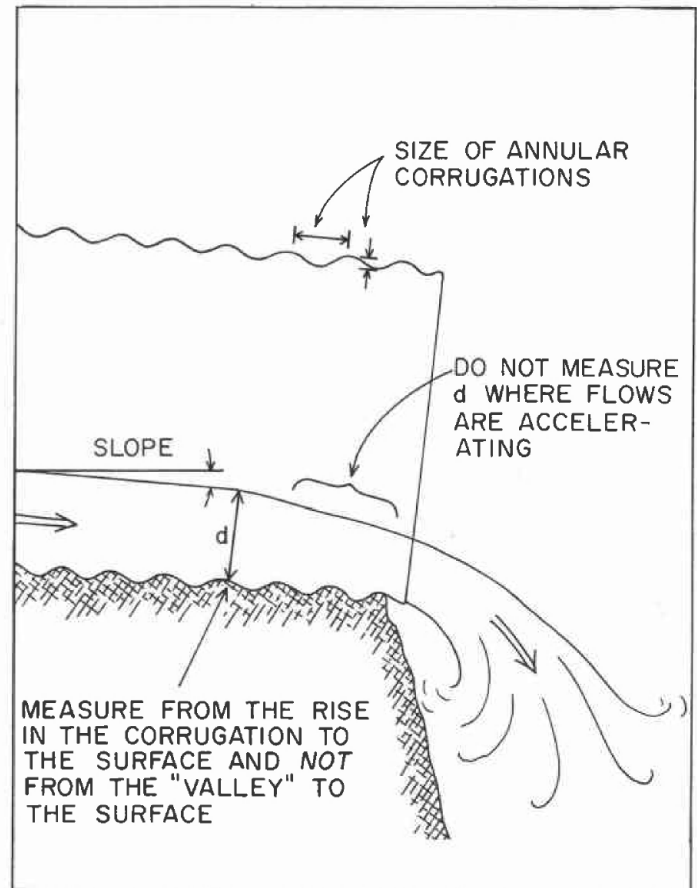

Figure 2.
1. Determine depth of flow (d) upstream from the outlet at a distance at least 1 to 2 times the measured depth. Avoid measurement nearer the outlet where accelerating flow influences water depth. In a metal culvert, measure depth from the ridge, not the valley, of an annular corrugation (Figure 2).
2. Measure inside culvert diameter (D). The radius (r) is half the diameter.
3. Measure the slope (S) of the culvert or water surface with an Abney level or clinometer. It is important to measure the slope accurately.